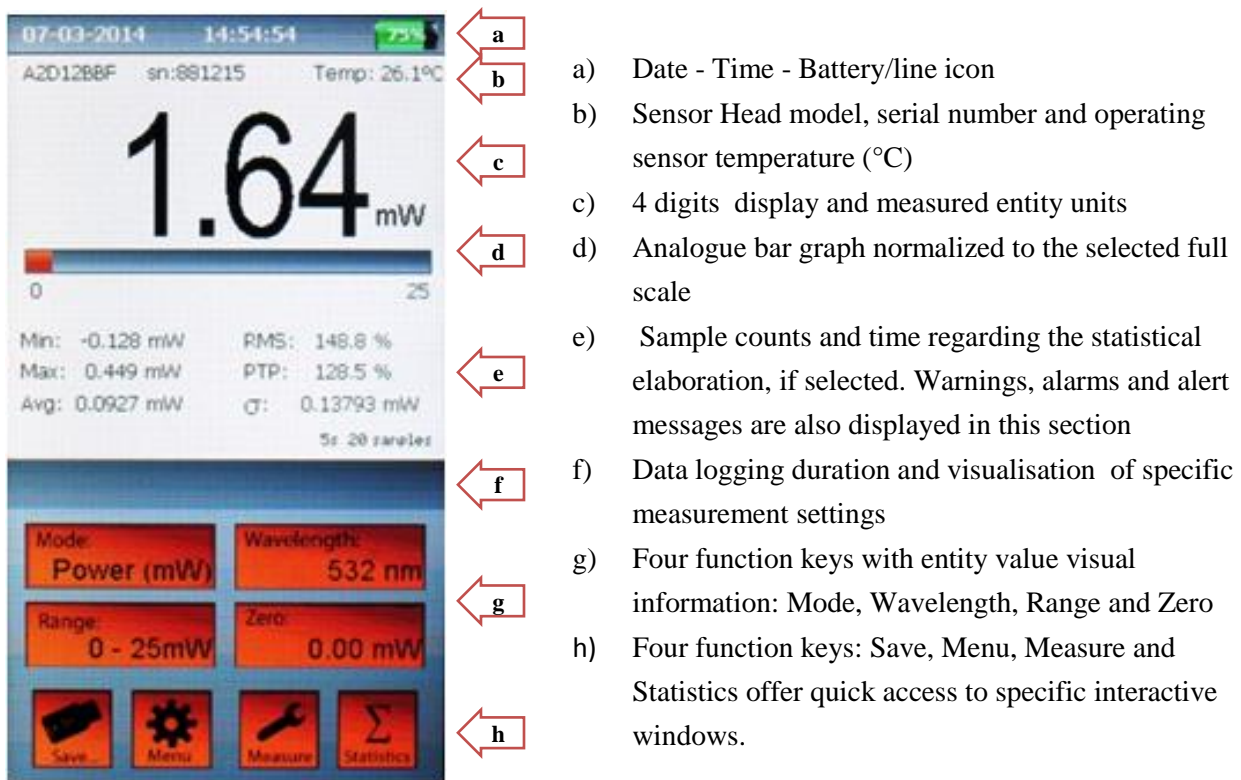

Fig. 4 The touch screen display
Touch Screen Display- Figure 4 shows the touch screen display; in its upper right corner the display hosts an icon showing which type of power source is used.. A green battery icon with an associated figure indicating its charge level in percentage of its full charge (in 25% unit steps) shows the instrument is powered by its rechargeable battery. When the battery is about to be exhausted the green icon converts to a red vertical bar associated with a small white plug. When the instrument is plugged in its line power supply the icon converts in a white plug icon.
- Check the desired laser wavelength value is displayed in the Wavelength key (Fig.4 (g))
Fig.4 shows an image of Plus 2 meter touch screen; its display is split in two main parts: its upper part is dedicated to reports the measurement related information and is the read out only part of the touch screen display. The lower part is the actual interactive area of the instrument and is filled with the touch screen keys dedicated to the instrument and measurement settings.
- To reset the ADC keep **Zero** key pressed until the window shown in Fig. 7 appears on the screen in the display segment e) as described in Fig. 4
Average value can be set from 0.1 sec to 99 sec and when a value greater than zero has been entered a yellow frame borders **Measure** key and an “Avg.” notice appears just in the right side of the display segment f) (see Fig. 4).